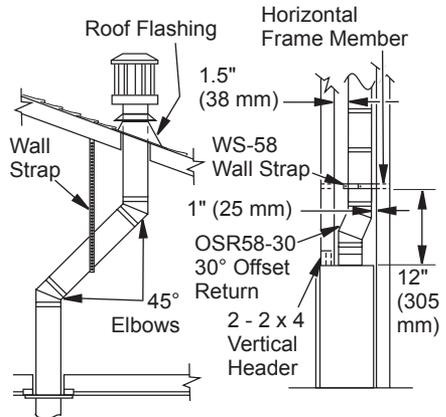

Figure 26 - 45° and 30° Offset with Wall Strap
- Determine the route your vertical venting will take. If ceiling joists, roof rafters or other framing will obstruct the venting system, consider an offset (see Figure 26) to avoid cutting load bearing members.
Note: If an offset is needed to avoid obstructions, you must support vent pipe every 3 feet. Use wall straps for this purpose (see Figure 26, page 17). Whenever possible, use 45° elbows instead of 90° elbows. The 45° elbow offers less restriction to the flow of flue gases and intake air.
5. Place flashing over pipe section(s) extending through roof. Secure base of flashing to roof and framing with roofing nails. Be sure roofing material overlaps top edge of flashing as shown in Figure 26, page 17. There must be a 1" clearance from vent pipe to combustible materials.